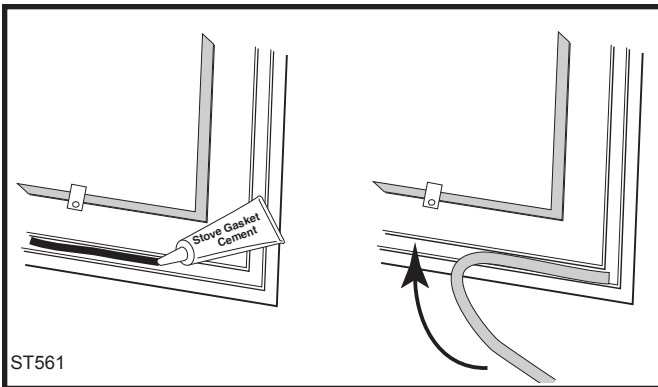

**Fig. 45** Remove gasket then clean channel with wire brush.
1. Remove the existing gasket by grasping an end and pulling firmly. (Fig. 45)
2. Use a wire brush or the tip of a screwdriver to clean the channel of any remaining cement or bits of gasket. Remove stubborn deposits of cement with a cold chisel if necessary. (Fig. 45)